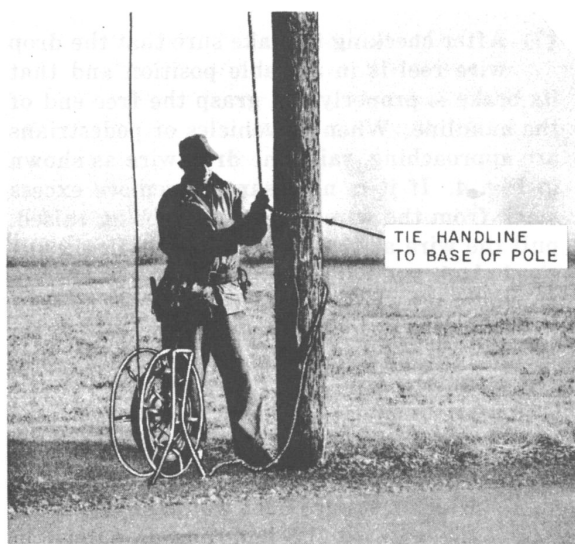

Fig. 5 — Drop Wire Raised to Approximate Height
(8) After the drop wire has been raised to the approximate required height, lash the handline near the base of the pole or, at a span clamp, to the lower rungs of the ladder as shown in Fig. 5.
(9) Climb the pole or, if at a span clamp, the ladder, and attach the drop wire to the pole or strand in a standard manner without removing the handline from the drop wire. When attaching the drop wire to a span clamp, bear in mind that the strand is forced out of line by the ladder resting against it and make any adjustments that are necessary to avoid excessive tension in the wire span when working from the ladder and also to ensure proper sag and clearance after removal of the ladder.
(10) Remove the handline from the drop wire. Cut the wire, leaving a sufficient length to reach the terminating point, and complete the connection in a standard manner.
(11) Attach the handline and remaining drop wire to the B Handline Carrier or under the body belt as previously mentioned and carry them down the pole in this manner. **Do not drop them to the ground.**